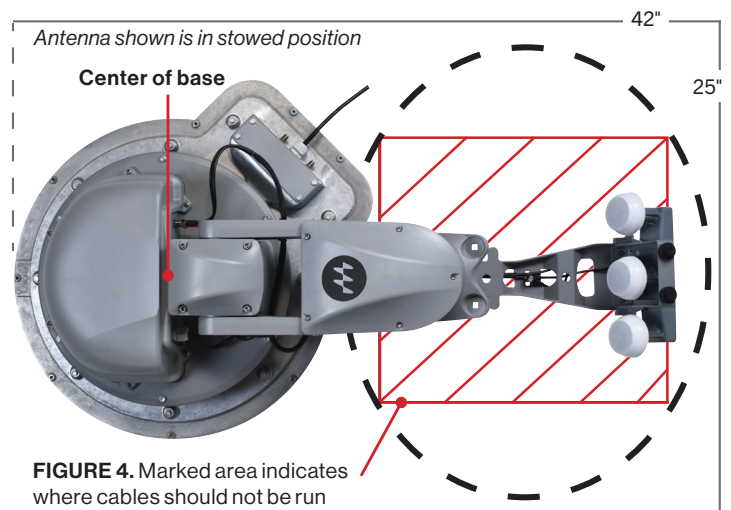

FIGURE 4. Marked area indicates where cables should not be run
- c. Has a minimum roof space of 42" x 25" for the antenna (figure 4).
5. Wires should not be run through the striped area (see figure 4). Anything in the striped area will interfere with the operation of the Trav'ler Pro antenna and may cause damage to the object or to the antenna.